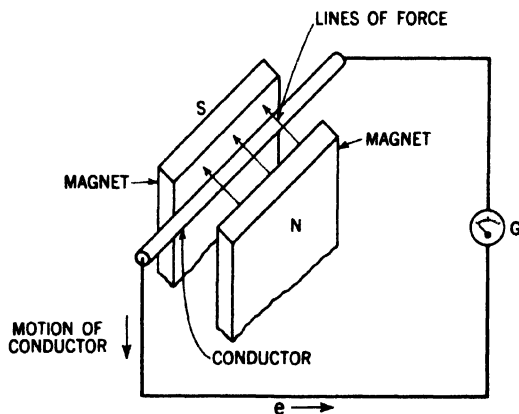

Fig. 31-3. Diagram of a conductor cutting across lines of force between poles of a magnet.
**Left-Hand Rule for Direction of the Induced Current.** Experimentation has evolved a rule to determine in which direction an induced current will flow. Examine Figure 31-3, where a conductor is moving across a magnetic field set up between two poles of a horseshoe magnet.